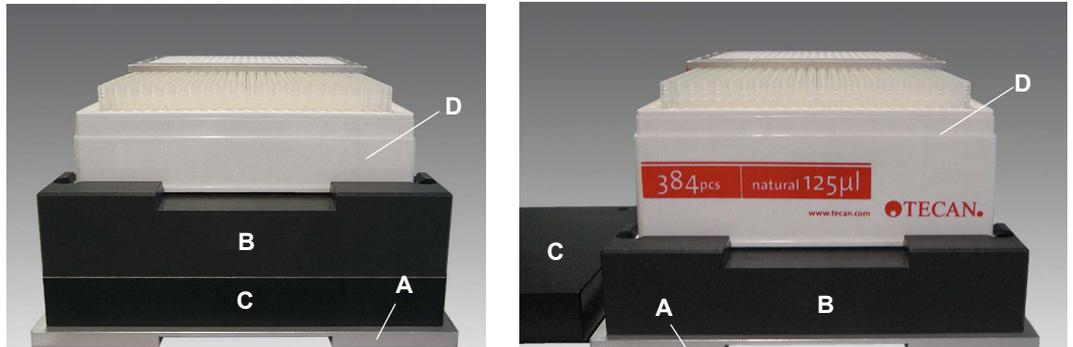

Fig. 3-27 MCA384 MP/DiTi nest for different DiTi boxes
It is used to place DiTi boxes at the correct height. Depending on the presence of the intermediate plate (B), two different heights of the nest can be realized (see Fig. 3-27 "MCA384 MP/DiTi nest for different DiTi boxes", 2 3-25).